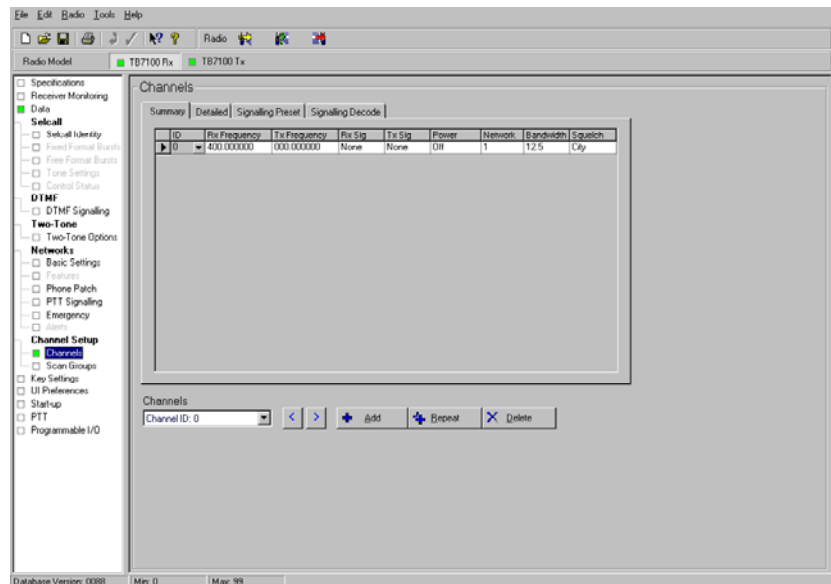

Figure 2
- Enter in the RX channel information required under Channel Setup>Channels. No TX channel information is required. **Refer to figure 2**.